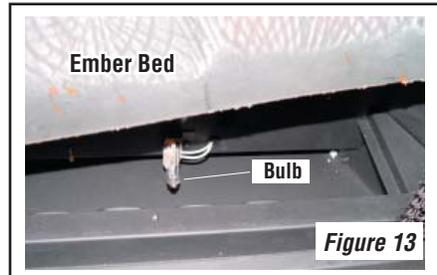

Figure 13
- i. With the ember bed removed, the 2 ember bed light bulbs will be visible (see **Figures 13 and 14**).